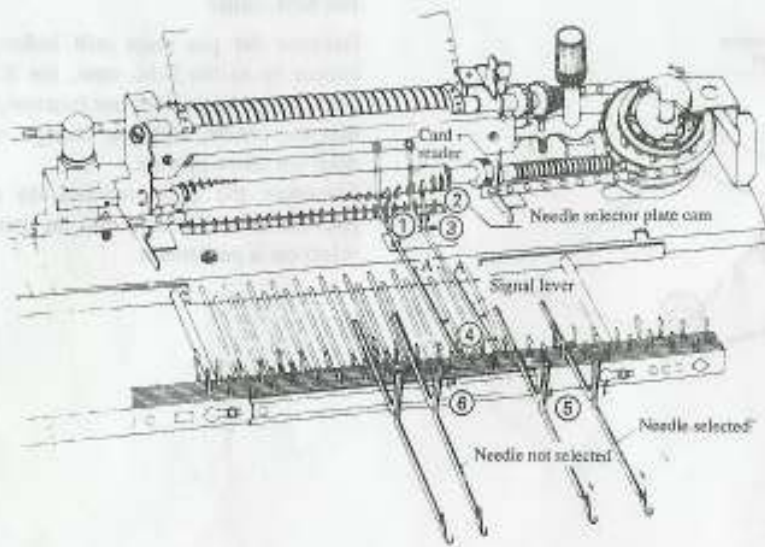

Fig. 4-1
- 4) The N.S.P. lever pivots upon A (see Fig. 4-1), and the needle selector plate moves to the right.